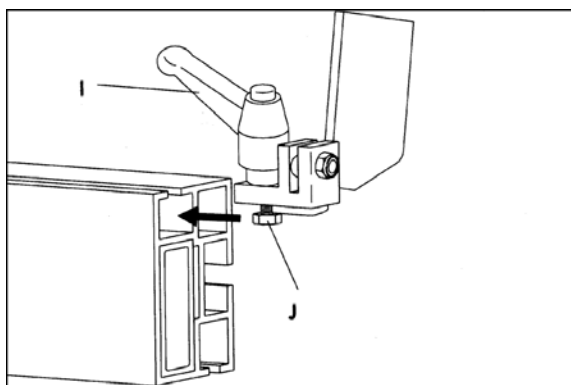

Figure 13
3. Loosen locking screw (I, Figure 13) and insert nut (J, Figure 13) of workstop assembly into the channel on end of fence as shown.
4. Slide workstop to desired position on fence and tighten locking screw (I, Figure 13).